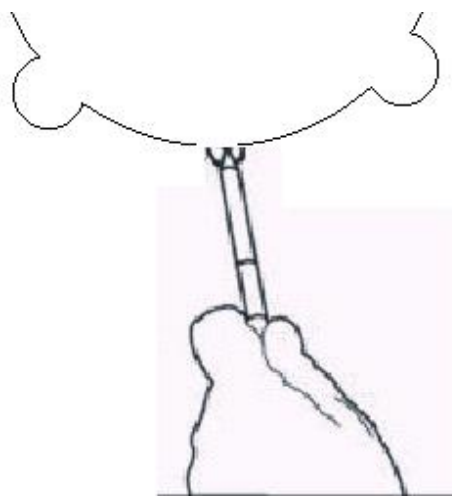

Figure 20
- b) Using the red spot to centre the template draw around the shape as per Figure 20.